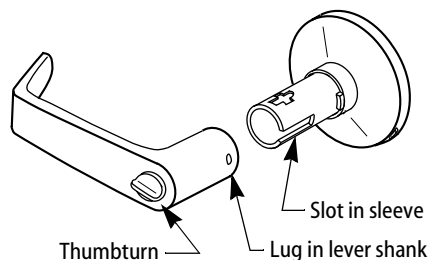

Figure 9—Installing the inside lever
- 1 Make sure that the thumbturn is in the unlocked (horizontal) position as shown in Figure 9.